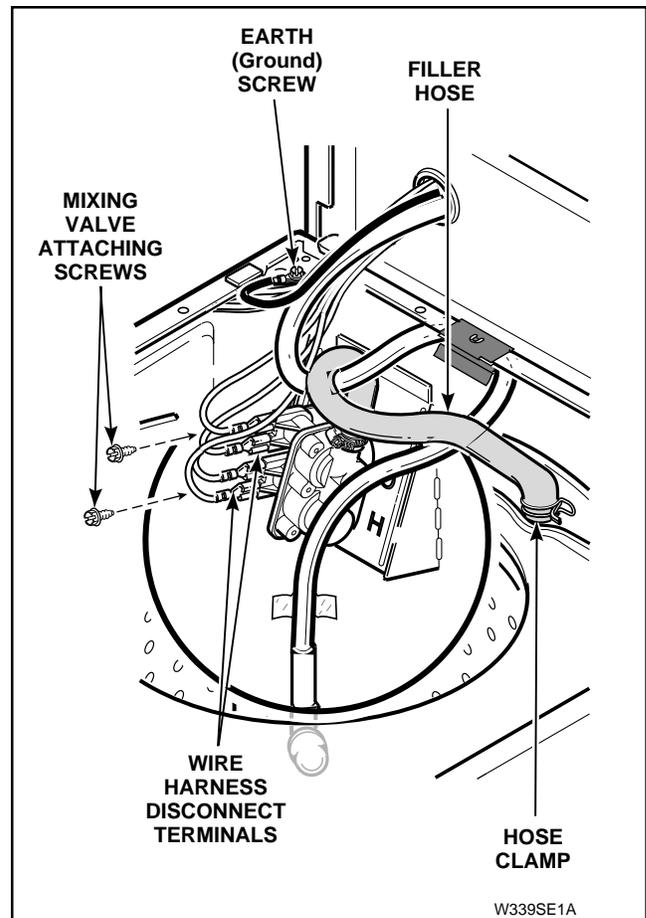

Figure 33
- b. Remove two screws holding mixing valve to mounting bracket at rear of washer cabinet, *Figure 33*.
- c. Pull mixing valve out toward front of washer far enough to permit disconnecting water inlet and fill hoses from mixing valve, *Figure 33*.
- d. Remove wires and quick disconnect blocks from mixing valve solenoid terminals, *Figure 33*.